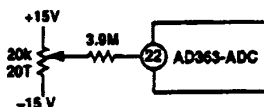
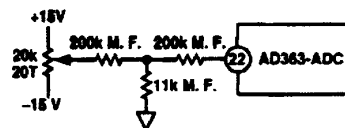

Figure 9a.
Figure 9b.
**Offset Adjust, AD363-ADC:** The simplest offset adjust circuit requires a 20-turn, 20 k $\Omega$  cermet potentiometer and a 3.9 M $\Omega$  resistor as shown in Figure 9a. This arrangement has an adjustment range of  $\pm 8$  LSBs, and will contribute a maximum of 2.3 ppm/ $^{\circ}$ C offset drift with a carbon composition fixed resistor (TC =  $-1200$  ppm/ $^{\circ}$ C). Drift contributions from the offset adjust circuit can be reduced well below this level using metal-film resistors and the circuit of Figure 9b.